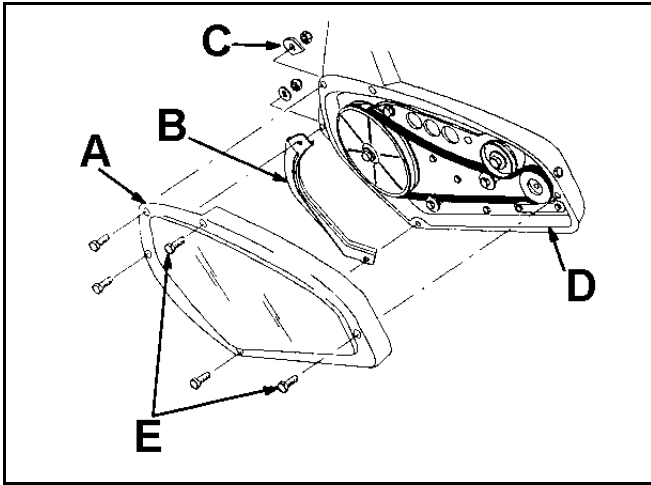
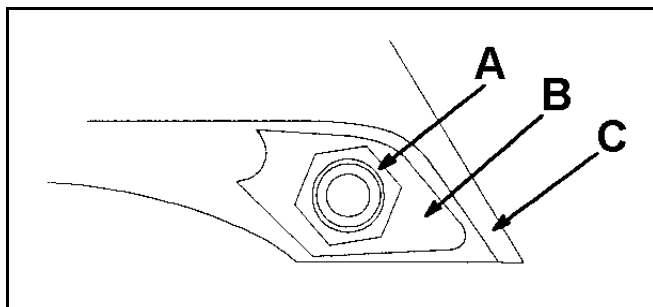

Figure 91
Figure 93
- Remove the two self-tapping screws, three cap screws, one washer, and three locknuts that secure the drive belt cover to the snowthrower frame (Figure 91). Set the drive belt cover aside.
- Remove the left rotor guard (Figure 91) and save it for installation in step 10.
NOTE: Install the diamond-shaped washer as shown in Figure 91 and Figure 93.